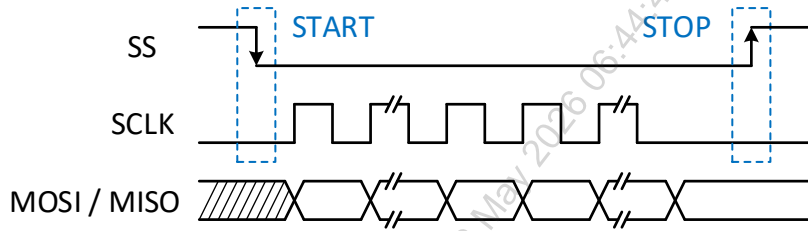

Figure 26. MODE1 timing
- Figure 26 illustrates MODE1. In MODE1, the clock idle state is low, and the first data bit of a transfer is captured (by either the host or target) on the second clock transition of the transfer.